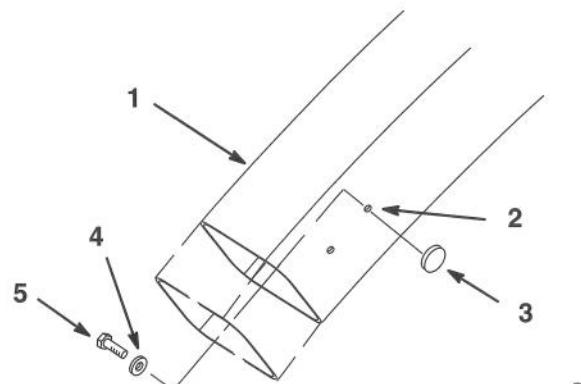

Figure 13
2. Cut 6" (152 mm) off the bottom of the discharge tube (Fig. 13).
3. Attach the knob to the end hole in the discharge tube and secure with a washer and 1/4 x 3/4" (19 mm) screw (Fig. 13).